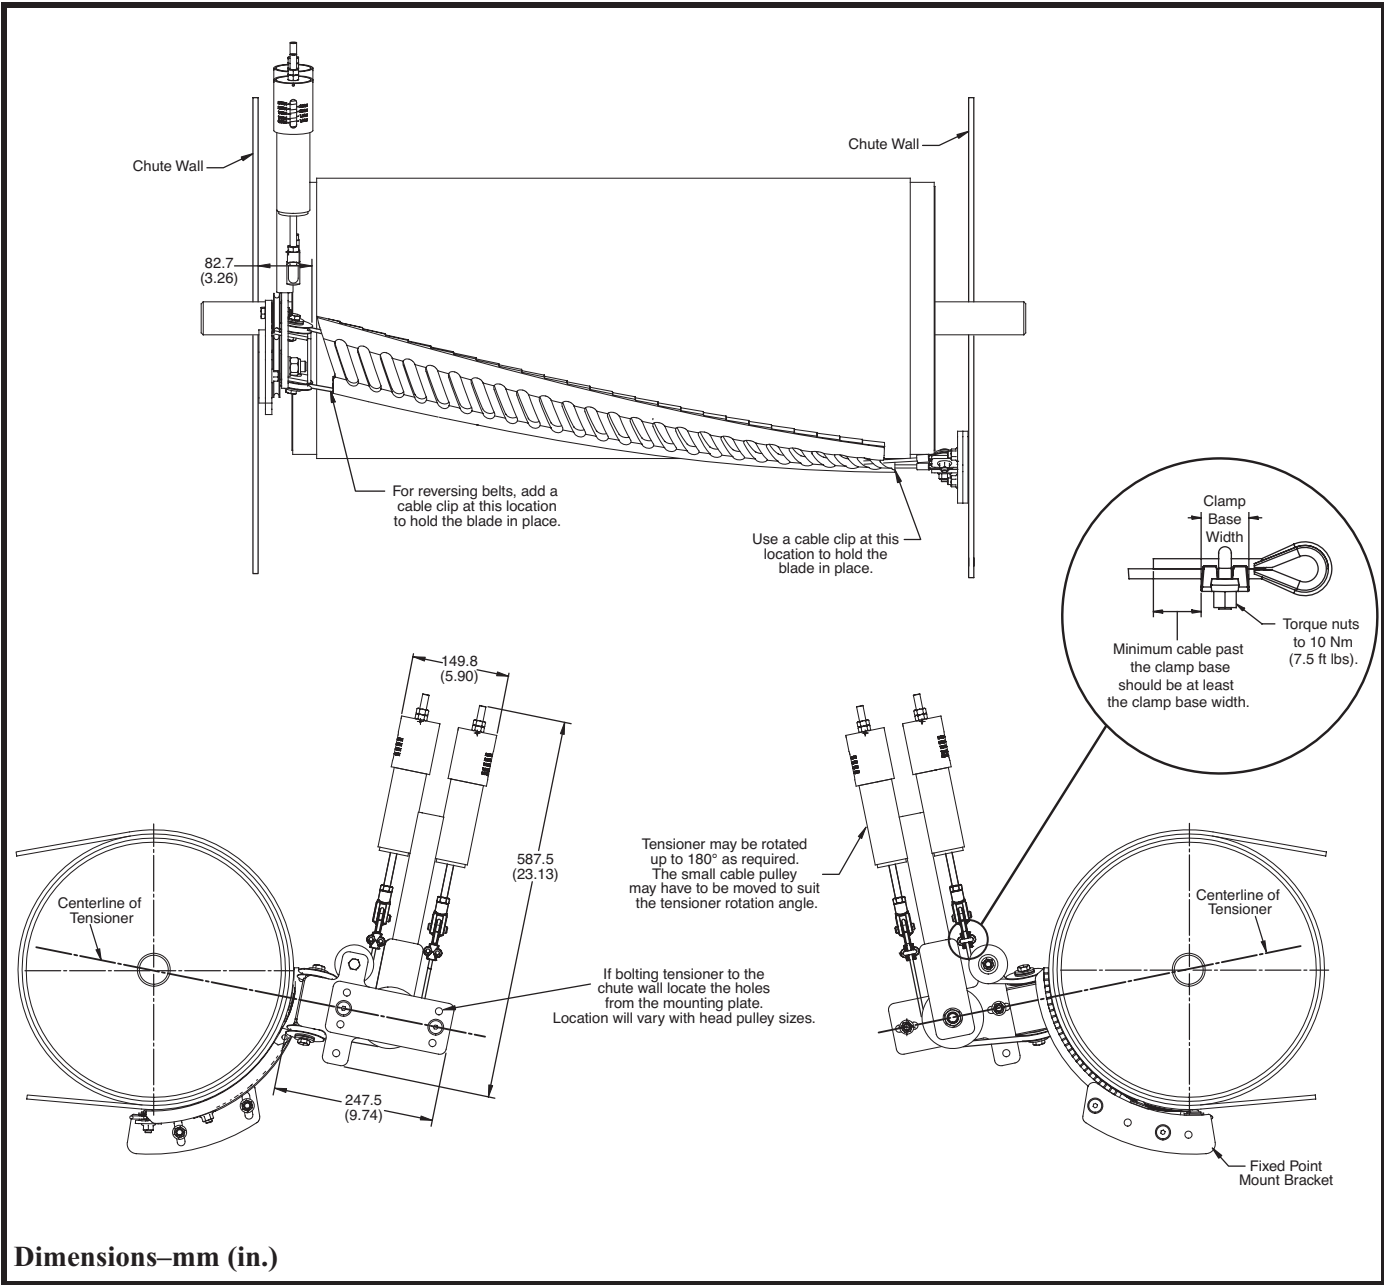

Figure 12. Installing Multi-Functional Tensioner on Inside Chute Wall
- c. Position tensioner in desired location free from obstructions as shown in Figure 12.
3. Assemble cable eyelet and clamp as shown in Figure 12.